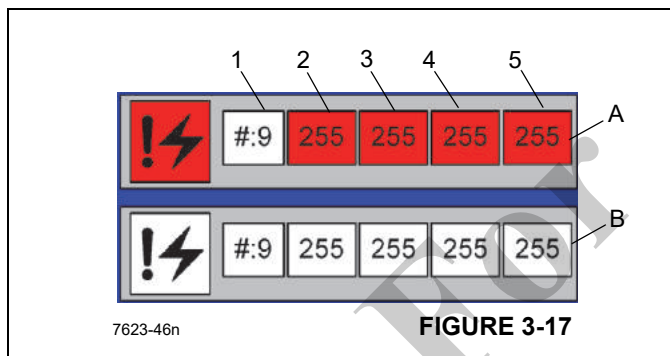

FIGURE 3-17
Figure 3-17 shows active and logged faults. The crane control system displays up to 20 of the most recent logged faults or errors in the crane and RCL control system(s). The circular arrows can be used to scroll through the active faults. This series of numbers corresponds to a specific fault
The following describes the fault code screen (Figure 3-17):
- Active Fault Box (Red, A, Figure 3-17) — The crane control system displays up to 20 active faults or errors in the crane and RCL control system(s). Fault numbers show only when the fault occurs and clears when fault is corrected. The three digit numbers correspond to a specific fault for a specific module, connector, and pin. The following data make up the fault code:
- Logged Fault Box (B, Figure 3-17) — Logged faults are not currently active. Use the up/down arrows to scroll through the codes.